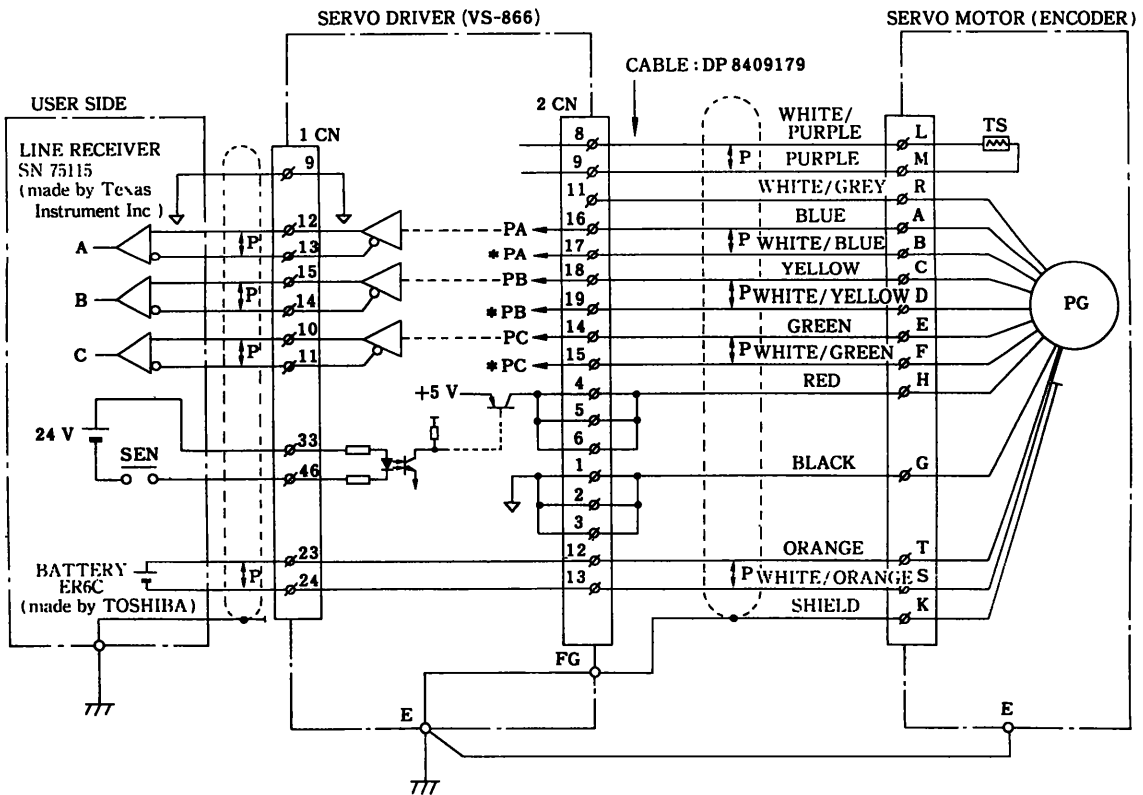

Fig.10.5 Connection of Absolute Encoder and Output Processing
- (1) Separate the control circuit wiring (connector terminal 1CN and 2CN connecting cable) from main circuit wiring (N, P, U, V, W, F1, F2) or power cables.
- (2) For control wiring, use twist shielded wires or twist pair shielded wires and process the ends as shown in Fig. 10.5 to avoid malfunction by noise. The wire length must be less than 20m.